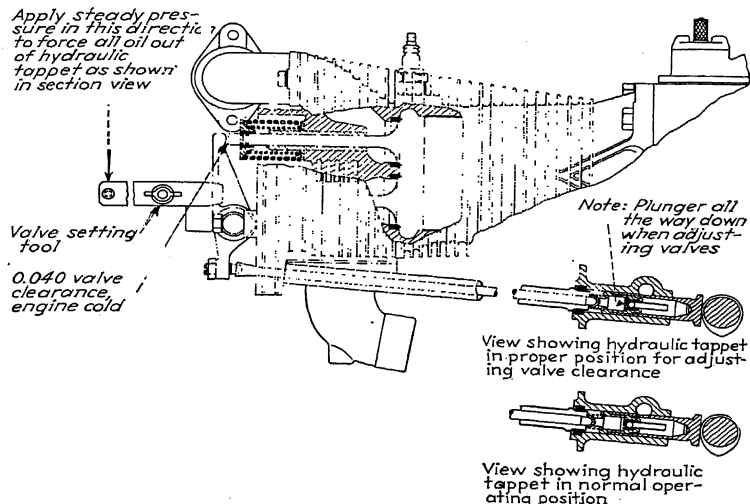
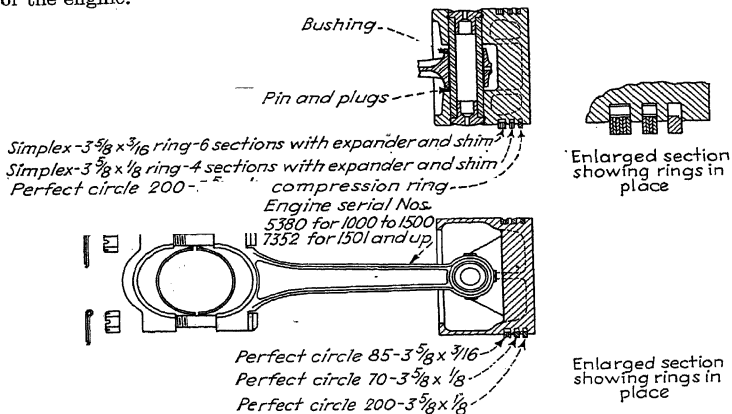

FIG. 8.—Details of hydraulic valve lifter.
Fig. 9.—Connecting rod and piston construction.
In Fig. 8 are details of the hydraulic valve lifter and the way in which oil is forced out for measuring valve clearance. Connecting rod construction is shown in Fig. 9. Figure 10 is a section showing both crankshaft and camshaft, and Fig. 11, a partial section through the cylinder and valve action.
*To remove a valve* (Fig. 8) place a block of wood  $7\frac{1}{8}$  in. long inside the cylinder, with the cylinder resting on the bench, and remove the valve cap. This will permit access to the valve mechanism.